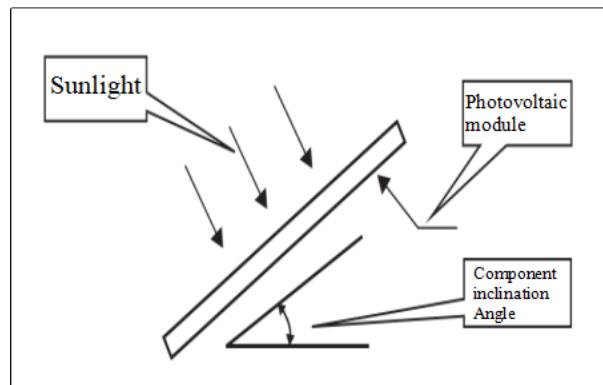

Fig. 1 Module installation angle
- The tilt angle of the module refers to the angle between the surface of the module and the ground plane (Figure 1). The power output is maximum when the module faces the sun.